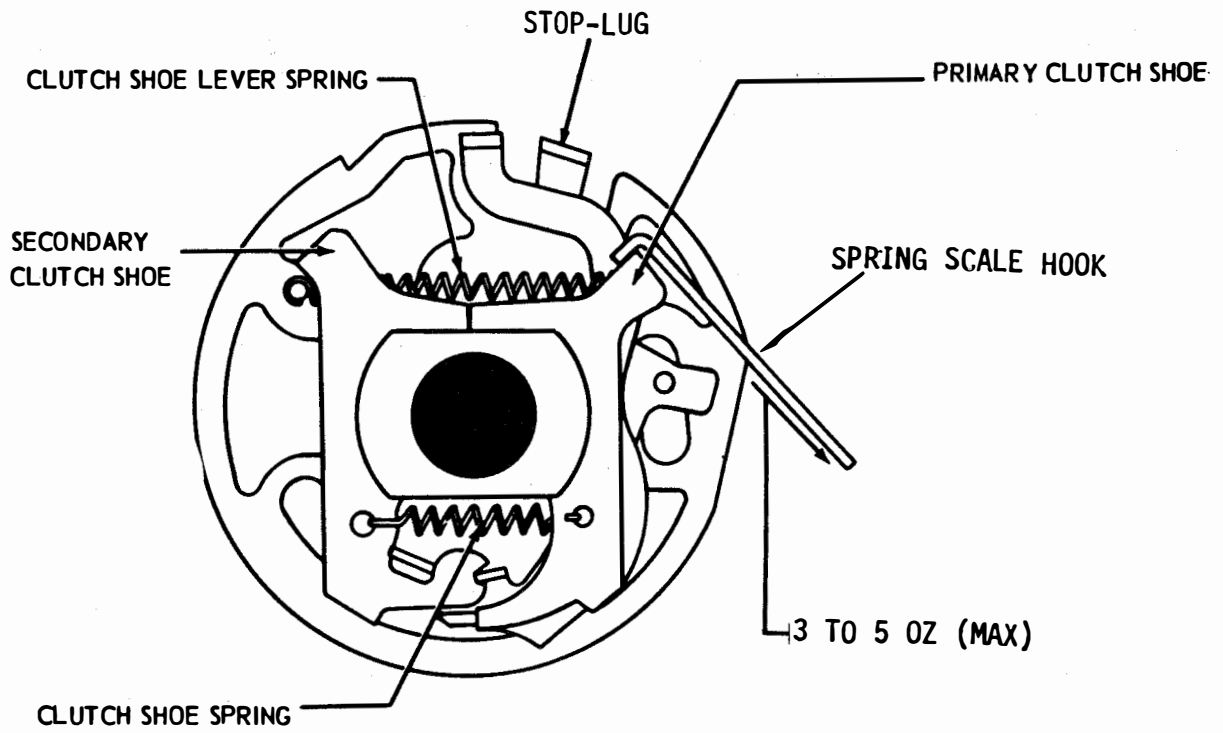

Figure 6-139. Clutch Shoe Spring
- (a) Refer to Figure 6-139.
(5) Rocker Bail.